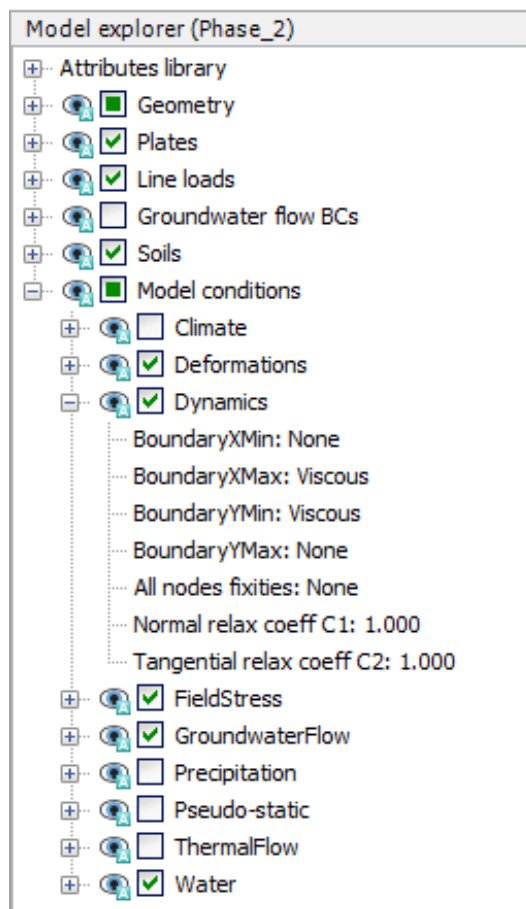

Figure 196: Boundary conditions for **dynamics calculations**
12. Special boundary conditions have to be defined to account for the fact that in reality the soil is a semi-infinite medium. Without these special boundary conditions the waves would be reflected on the model boundaries, causing perturbations. To avoid these spurious reflections, viscous boundaries are specified at  $X_{max}$  and  $Y_{min}$ . The dynamic boundaries can be specified in the **Model explorer** > **Model conditions** > **Dynamics** subtree as shown in Figure 196 (on page 221).